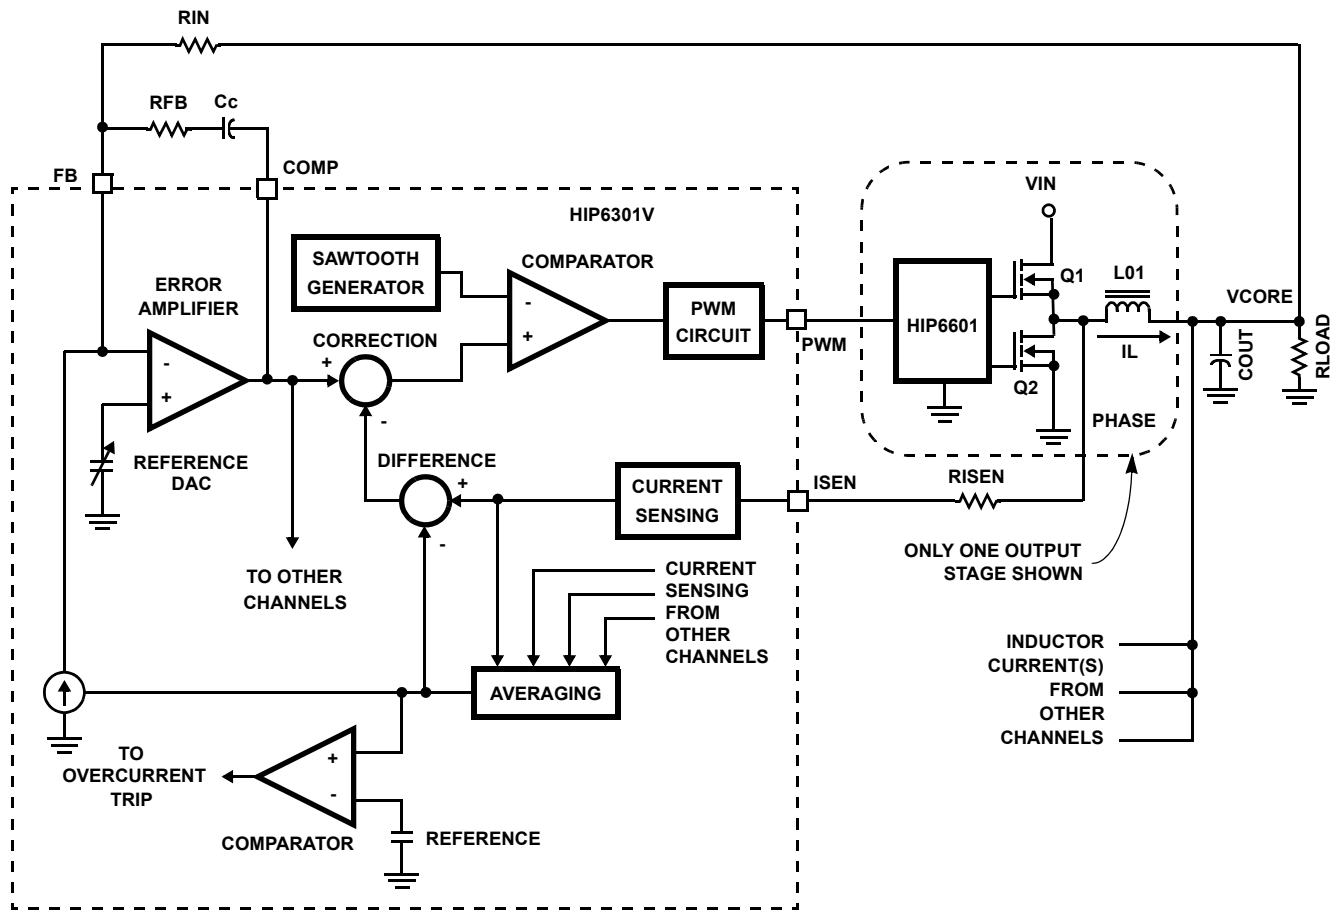

FIGURE 9. SIMPLIFIED FUNCTIONAL BLOCK DIAGRAM SHOWING CURRENT AND VOLTAGE SAMPLING
The HIP6301V and HIP6302V sample the on-state voltage drop across each synchronous MOSFET, Q2, as an indication of the inductor current in that phase, see Figure 9. Neglecting AC effects (to be discussed later), the voltage drop across Q2 is simply rDS(ON)(Q2) x inductor current (IL). Note that IL, the inductor current, is either 1/2, 1/3, or 1/4 of the total current (ILT), depending on how many phases are in use.